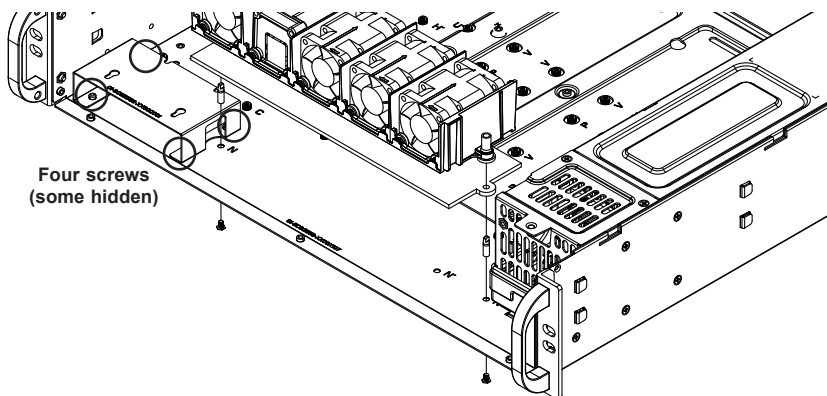

Figure 5-21. Removing Fan Holder Pins
5. Remove the metal bracket by unscrewing the 4 screws from the bottom side of chassis (see Figure 5-21).